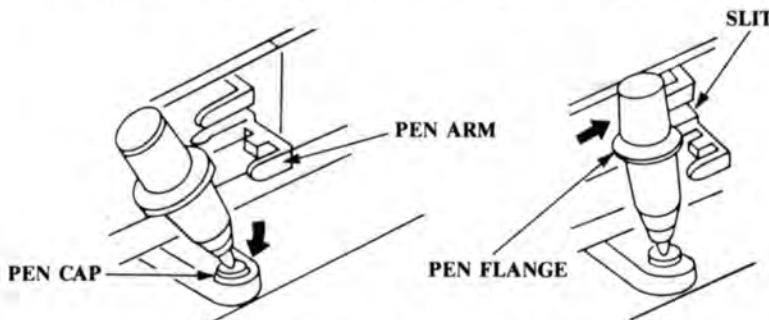

FIGURE 1-4. PEN INSTALLATION
- Place the pen point in the plotter pen cap as shown in Figure 1-4. Press the pen down and slide the pen flange into the pen stall slit. Note that the lower body of the pen is held by the pen arm. At least install a pen in pen stall 1 (see Figure 1-1).